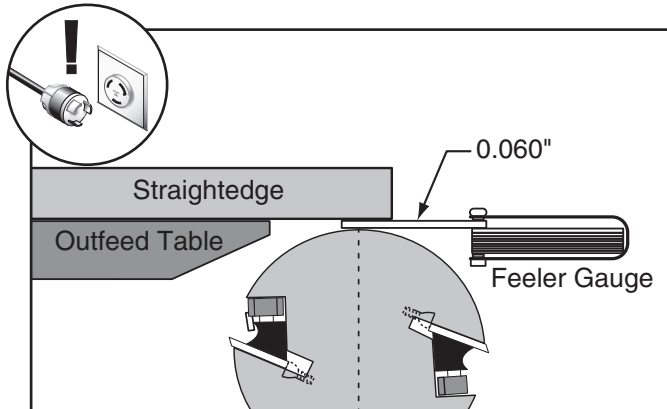

Figure 59. Using feeler gauge to check outfeed table-cutterhead height.
4. Try to fit a 0.060" feeler gauge (or combination of feeler gauges) between the cutterhead body and the bottom of the straightedge (**Figure 59**).
- Place the straightedge on the front side of the outfeed table so it hangs over the cutterhead, as shown in **Figure 59**, then try to fit a feeler gauge or combination of feeler gauges between the cutterhead and bottom of the straightedge.